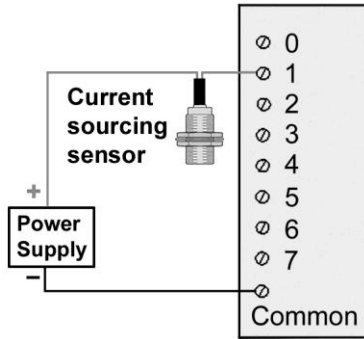

Figure 2-7 Current sourcing sensor for question 29.
29. The current sourcing sensor shown in Figure 2-7 must be matched with a _____ PLC input module. 29. _____